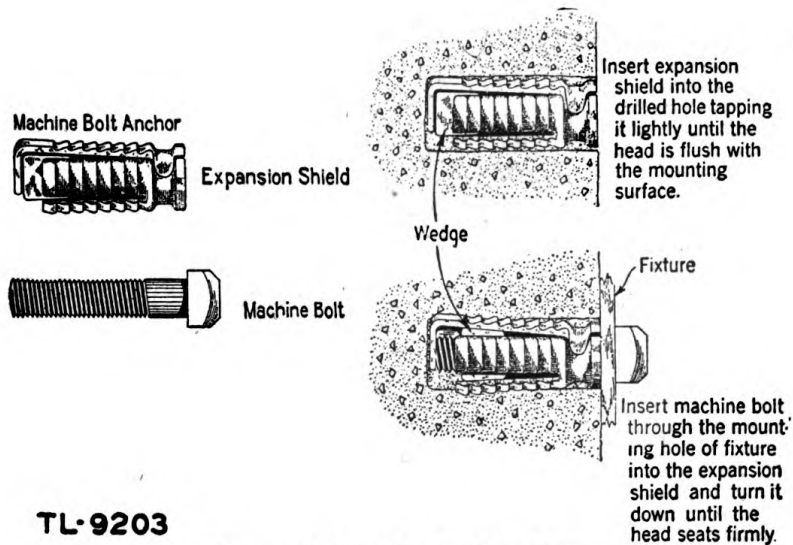

Figure 8. Machine bolt anchors.
(2) Screw anchors consist of an expansion shield which is available in two general types: one to accommodate a wood-screw wedging element, and the other to accommodate a machine-screw wedging element. (See figs. 8 and 9.) Screw anchors are also intended for use in attaching fixtures to masonry surfaces.